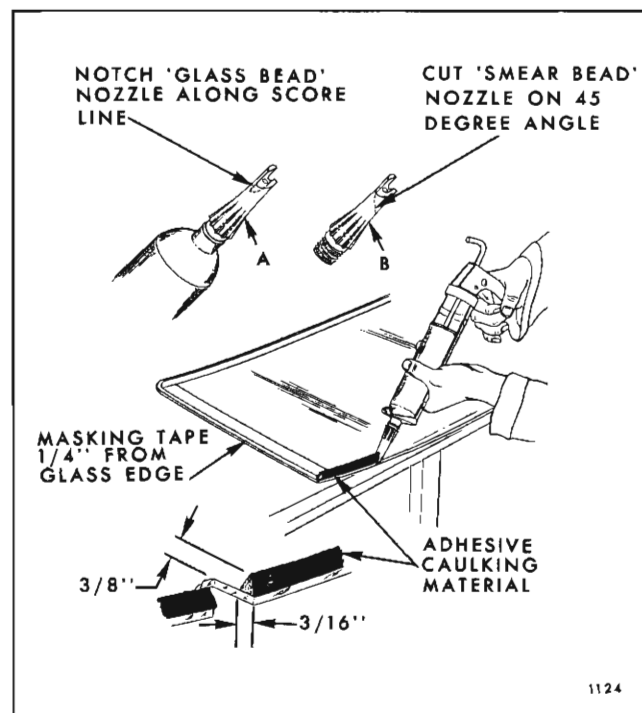

Fig. 2F5—Adhesive Caulking Material Application
10. Apply one inch masking tape to inner surface of glass 1/4" inboard from outer edge up both sides and across top. Do not apply tape to bottom edge of glass. Instead, apply masking tape over painted feature strip below back window opening. (See Fig. 2F5).
12. Enlarge dispensing end of one nozzle by cutting out notch along score line indicated at "A" in Figure 2F5. This nozzle will be used to apply the bead of adhesive material to glass. Cut nozzle from the second kit at a 45 degree angle as indicated at "B" in Figure 2F5. This latter nozzle will be used to apply a smear bead to pinchweld flange of back window opening.